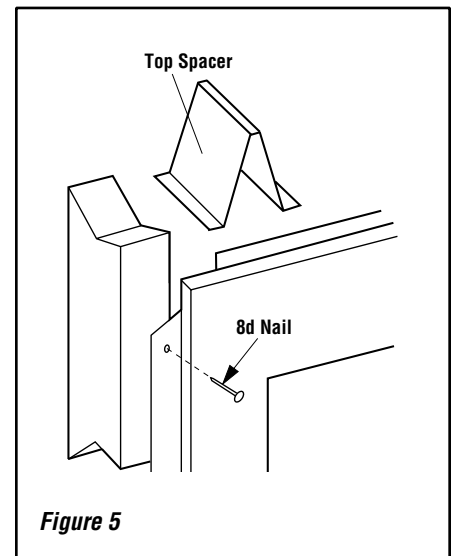

Figure 5
Step 3. Fireplace should be secured to side framing members using the full length nailing tabs at the top and bottom of the fireplace front face. Use 8d nails (see **Figure 5**).
Under no circumstances shall the firebox top spacers be removed or modified (see Figure 5). The header may be in direct contact with the top spacers but must not be supported by them, notched or altered to fit around them.